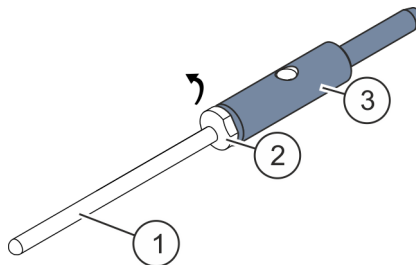

Fig. 15: Screw needle bolt onto the valve needle
10. ➔ Screw the needle bolt (Fig. 15/3) onto the valve needle (Fig. 15/1) and counter against the needle pusher (Fig. 15/2).